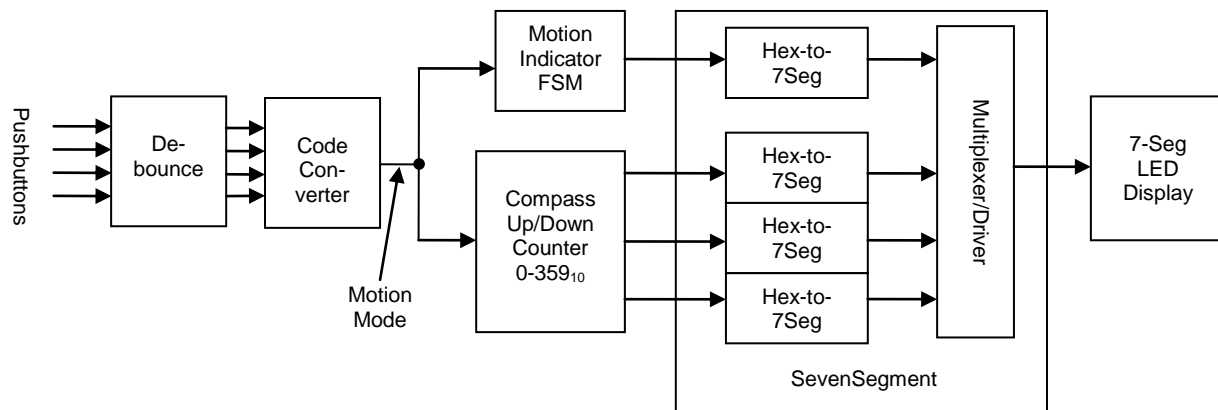

Figure 3: RojoBot with Compass and Motion Indicator Block Diagram
A block diagram for your new design with the Compass and Motion Indicator is shown in Figure 3. The debounce module and the display driver can be reused. Both the Motion Indicator and Compass modules use the robot's motion mode as inputs. The motion mode can be decoded from the debounced pushbutton inputs. The motion indicator (MI) can be implemented with a finite state machine (FSM). The MI output is not hexadecimal but there are special codes that cause each of the individual segments of a digit to display. Table 5 lists the display codes that are recognized.